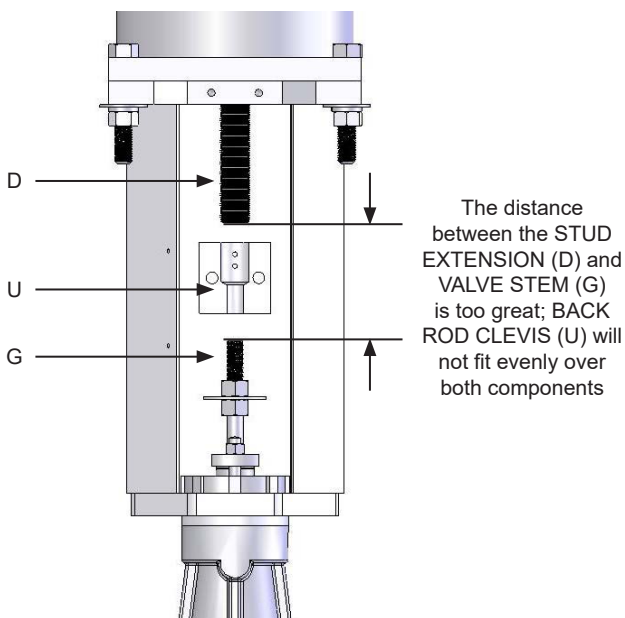

Figure 48. Example of how Valve Stem fluctuation can prevent further continuation of complete assembly (Rod Clevis cut-away to show inside hole depths)
The next step in this assembly would be to attach BACK ROD CLEVIS (U) to both VALVE STEM (G) and STUD EXTENSION (D). However if the distance between STUD EXTENSION (D) and VALVE STEM (G) is too great, BACK ROD CLEVIS (U) will not attach to both components (see figure 48).